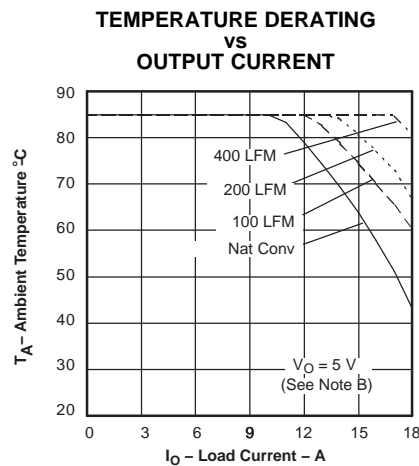
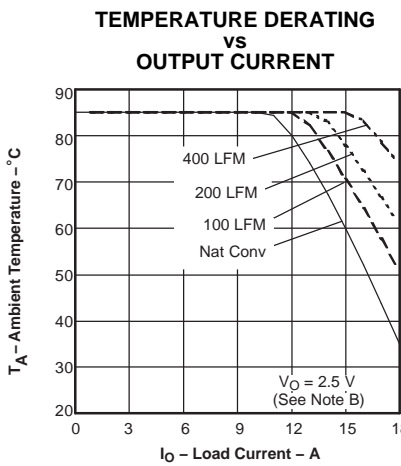
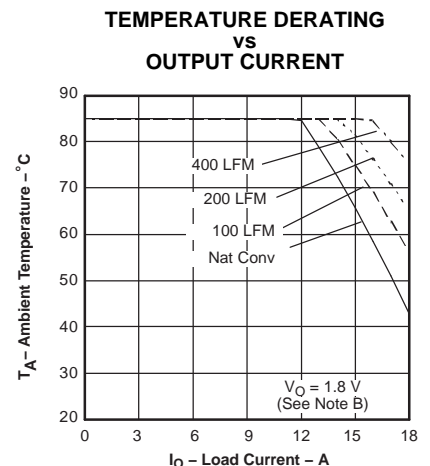

Figure 4.
Figure 5.
Figure 6.
- (2) The temperature derating curves represent the conditions at which internal components are at or below the manufacturer's maximum operating temperatures. Derating limits apply to modules soldered directly to a 4 inch × 4 inch double-sided PCB with 1oz. copper. For surface mount products (AS and AZ suffix), multiple vias (plated through holes) are required to add thermal paths around the power pins. Please refer to the mechanical specification for more information. Applies to Figure 4, Figure 5 and Figure 6.